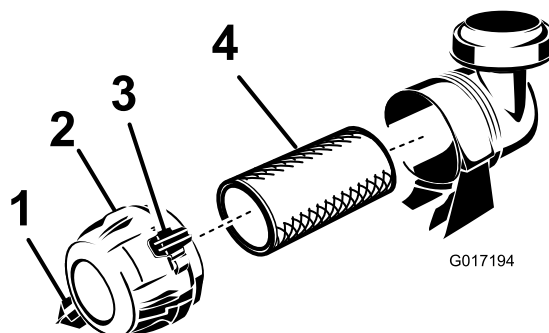

Figure 22
1. Pull the latch outward and rotate the air cleaner cover counterclockwise (Figure 22).
3. Gently slide the filter out of the air cleaner body (Figure 22) to reduce the amount of dust dislodged. Avoid knocking the filter against the air cleaner body.
3. Clean the dirt ejection port located in the removable cover (Figure 22). Remove the rubber outlet valve from the cover, clean the cavity and replace the outlet valve.